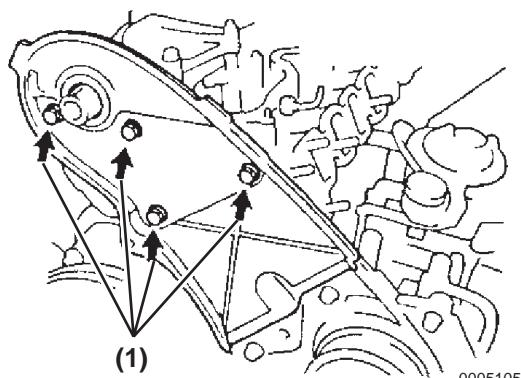

Figure 5-75
3. Install the oil seal retainer using 4 bolts (**Figure 5-75, (1)**). Tighten the bolts uniformly in steps and torque to 200 kgf·cm, 19.61 N·m (14.5 lb·ft).